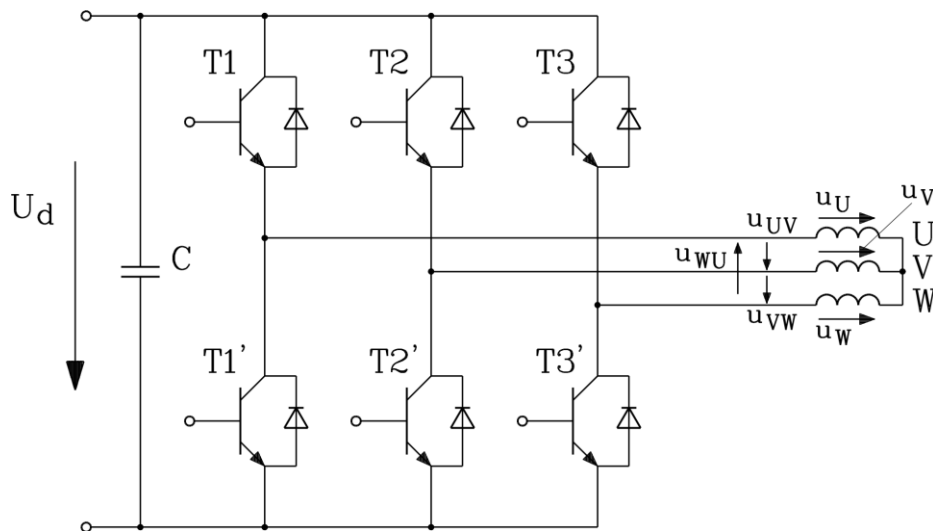

Fig. 8.5-1: The electric circuit of the inverter with the star connected stator winding
- 1) Which transistors must conduct in Fig. 8.5-1 to get the wanted position of the stator voltage space vector? Describe the corresponding current flow!